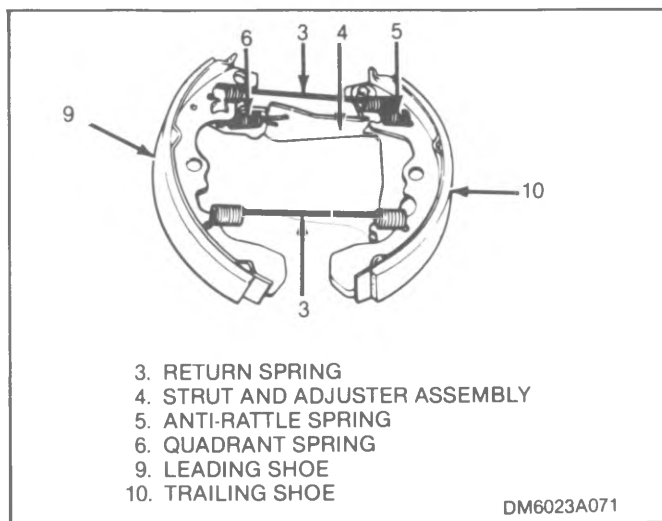

Figure 4-27. Shoe, Spring and Lever Group
3. Remove both brake shoes (9 and 10) and assembled parts (3 thru 8) (see figure 4-27) as a unit.
4. Move bottom ends of shoes (9 and 10) together to remove lower shoe return spring (3). Then remove anti-rattle spring (5), strut and adjuster assembly (4) and upper shoe return spring (3).
14. Preassemble both shoes (9 and 10), strut and adjuster assembly (4), return springs (3) and anti-rattle spring (5) as shown in figure 4-27.
15. Move brake shoes (9 and 10) and assembled parts (3 thru 8) on backing plate and attach parking brake cable (13) to parking brake lever (8).